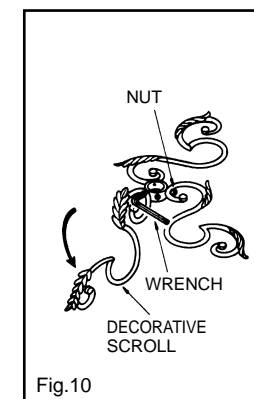

Fig.10
**Step 6.** Unfold the decorative scroll arms and space them evenly. Secure assembly by tightening the nut with the wrench provided. (Fig. 10)
**Step 7.** Carefully feed fan wires up through the downrod. (Fig. 10) Thread Downrod into the Coupling until the holes are lined up and secure with the Lock Pin and Hitch Pin previously removed, tighten Set Screws. (Fig. 11)